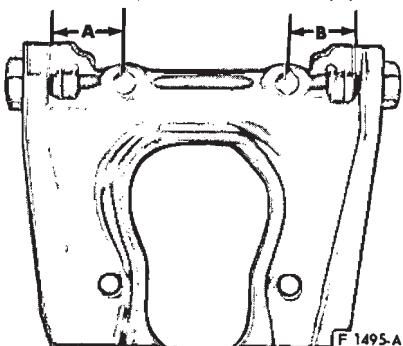

FIG. 7—Shaft Centered in Arm—Typical
9. Position the shaft in the arm, apply grease to the new bushings and O-rings, and install the bushings loose on the shaft and arm. Turn the bushings so that the shaft is exactly centered. The shaft will be properly centered when dimensions A and B in Fig. 7 are equal.